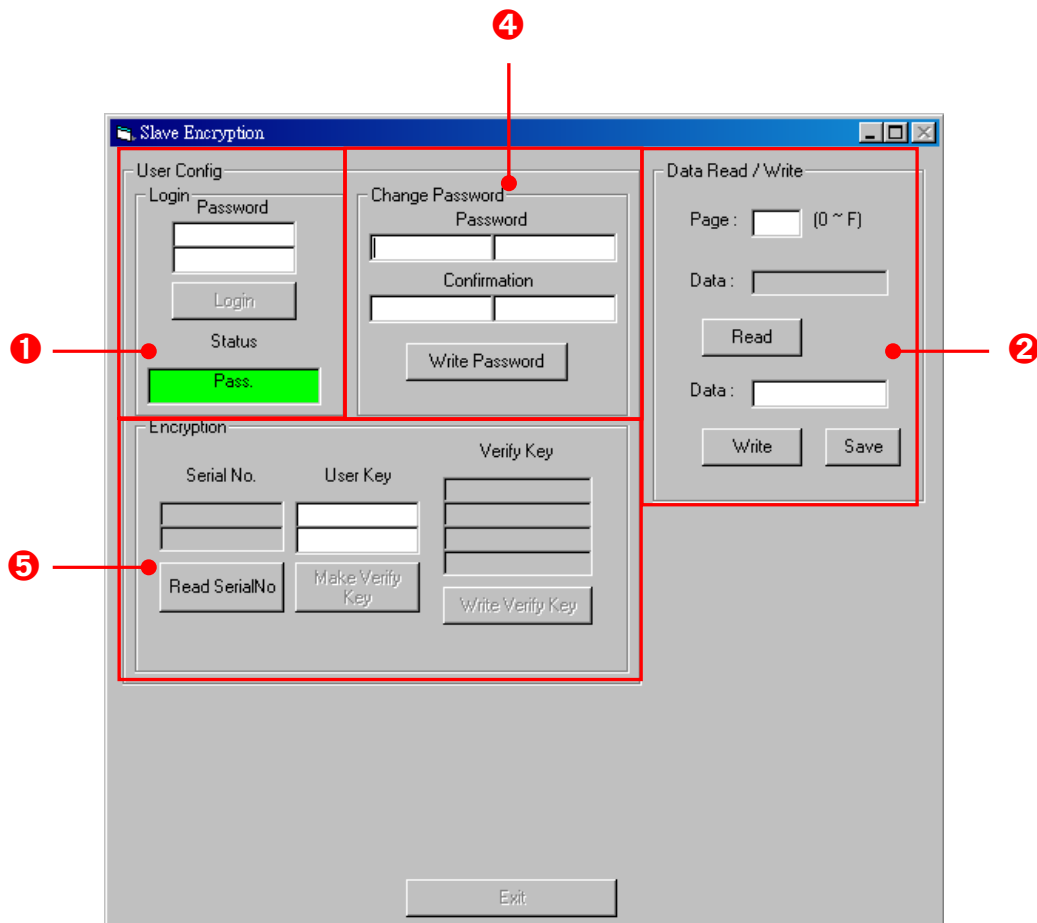

Figure 2.19 RM04PI Slave Encryption User Post-Login Interface
- ③ Verify key confirmation field and status display.
Enter the 4 sets of Verify Key values in Fig. 2.19 block ⑤ into the 4 fields of Check Verify Key and then click on "Check Verify Key".